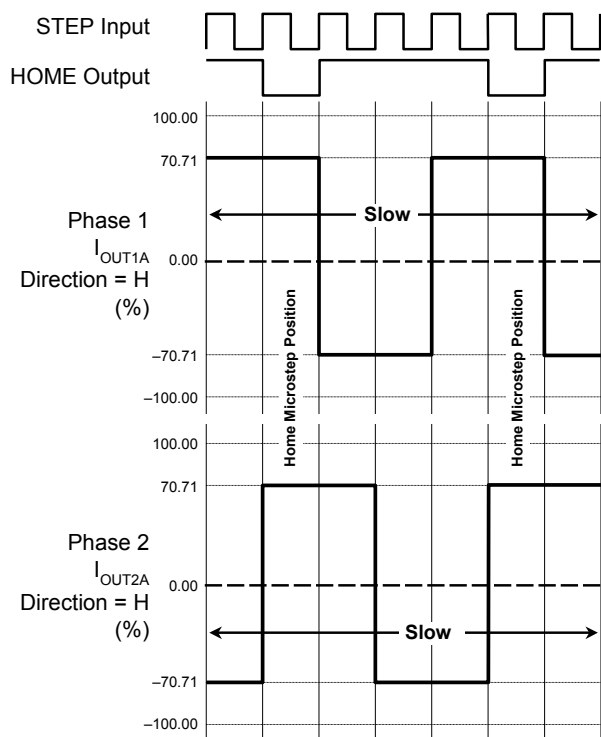

Figure 2. Decay Mode for Full-Step Increments
At power-on or reset, the translator sets the DACs and the phase current polarity to the initial Home state (shown in figures 2 through 5), and the current regulator to Mixed decay mode for both phases. When a step command signal occurs on the STEP input, the translator automatically sequences the DACs to the next level and current polarity. (See table 2 for the current-level sequence.) The microstep resolution is set by the combined effect of inputs MS1 and MS2, as shown in table 1.
**RESET Input ( $\overline{\text{RESET}}$ ).** The  $\overline{\text{RESET}}$  input (active low) sets the translator to a predefined Home state (shown in figures 2 through 5), and turns off all of the DMOS outputs. The HOME output goes low and all STEP inputs are ignored until the  $\overline{\text{RESET}}$  input is set to high.
**Home Output (HOME).** The HOME output is a logic output indicator of the initial state of the translator. At power-on, the translator is reset to the Home state (shown in figures 2 through 5).
**Mixed Decay Operation.** If the voltage on the PFD input is between  $0.6 \times V_{DD}$  and  $0.21 \times V_{DD}$ , the bridge operates in Mixed decay mode, as determined by the step sequence (shown in figures 2 through 5). As the trip point is reached, the device goes into Fast decay mode until the voltage on the RCx terminal decays to the same level as voltage applied to the PFD terminal. The time that the device operates in fast decay is approximated by: